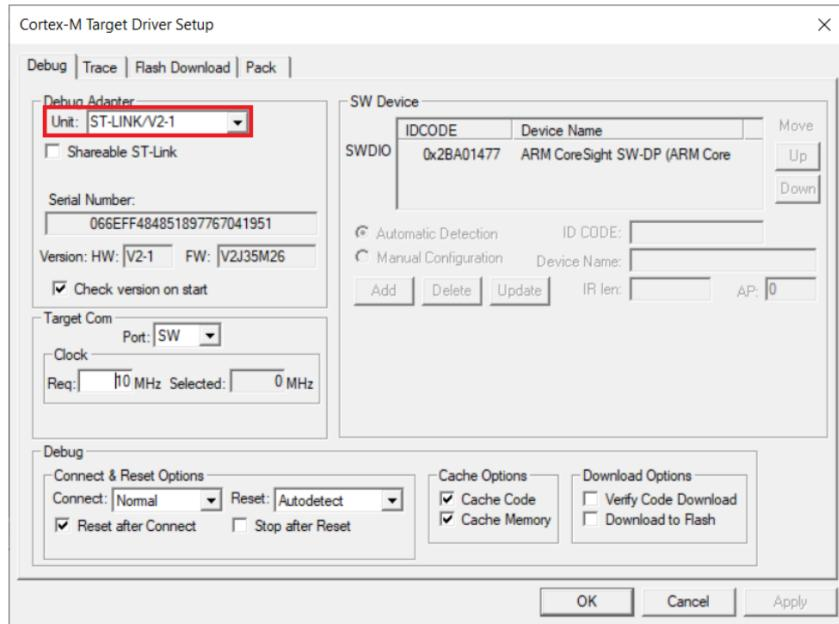

Figure 13
- Ensure that the board is plugged in. For the **Debug Adapter → Unit** option, select **ST-Link/V2-1** from the drop-down menu (see Figure 13).